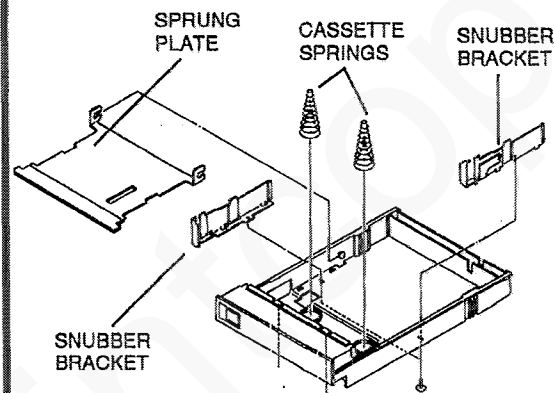

Figure 1. Tray 2 paper tray
2. Unscrew the two screws that secure the snubber brackets into tray 2, then remove the snubber brackets (Figure 1).
3. Hinge the sprung plate upwards and remove the two cassette springs (Figure 1).